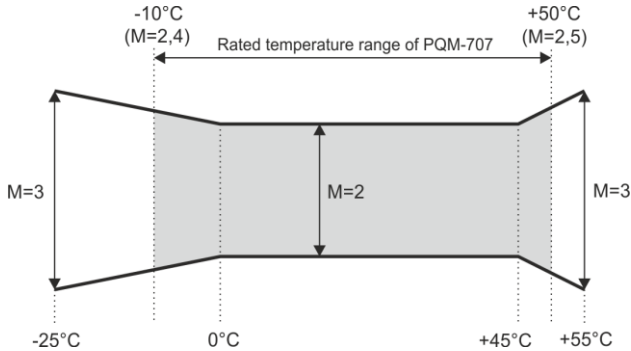

Fig. 77. Basic uncertainty multiplier M as a function of ambient temperature (does not apply to the reference conditions).
The basic uncertainty given in technical data applies to reference conditions only (Tab. 9). Outside of this range an additional multiplier has to be used, as shown in Fig. 77. The multiplier (M) is 2.0 in the ambient temperature range 0°C...+45°C. Over +45°C up to +55°C it rises in linear manner up to 3.0. Below 0°C down to -25°C it rises in linear manner to 3.0.